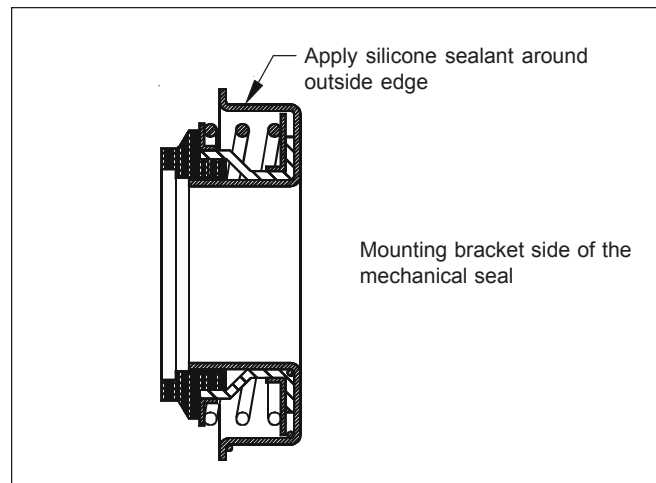

Figure 6. Mechanical Seal Replacement
8. Apply new silicone sealant to the perimeter of the new seal and press it into the mounting bracket by hand (See Fig. 6).